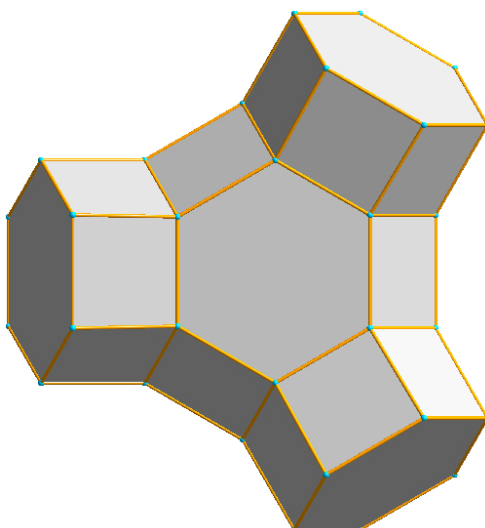

Fig. 64: The structure is again viewed towards the (1,1,1)-plane.
In the fourth and final step, the connection of the  $\beta$ -cages with each other will be visualized. For that, we have to change the orientation again in order to view along the (1,1,1)-axis: Choose the "Viewing Direction" command from the "Picture" menu, set the input fields next to "h,k,l" to 1, then confirm with "Set", then close the dialog box. You will now look at the structure picture in the direction perpendicular to the (111) plane (fig. 64). Again, you may have to press <F9> afterwards in order to readjust the enlargement factor.